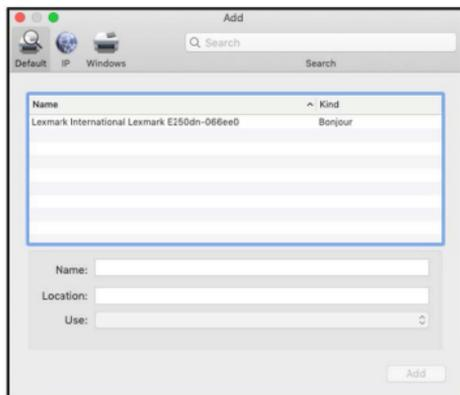

Figure 20
- The **Add** screen will appear. From the **Add** screen, under the **Default** tab, select the **Printer** and select the **Add** button. (Figure 20)